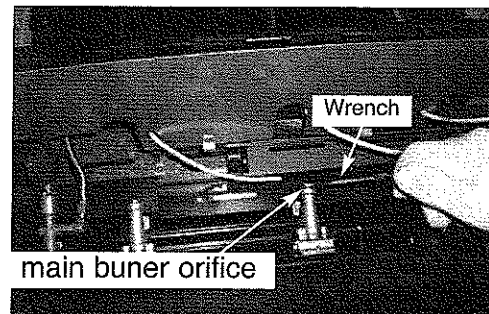

Fig 8
8. Let a friend help you to pull the front control panel out and hold it. Use a wrench to remove the four (4) main burner LP orifices. Then replace the four (4) main burner NG orifices provided in the NG conversion kit. (See Fig. 8)